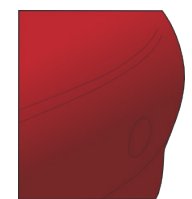

Figure 24
- ▶ The application is finished. (FIG. 24)